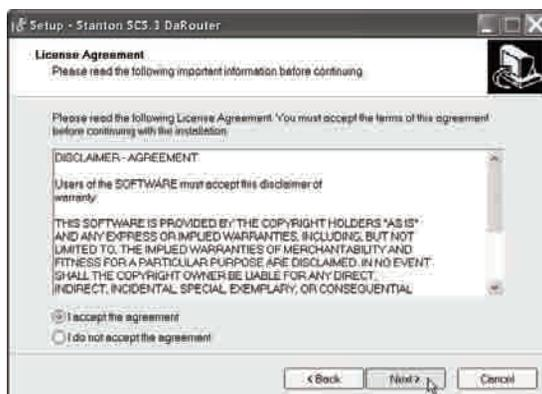

Figure 5.5
- Select *I accept the agreement* and click **Next**. (Figure 5.5)